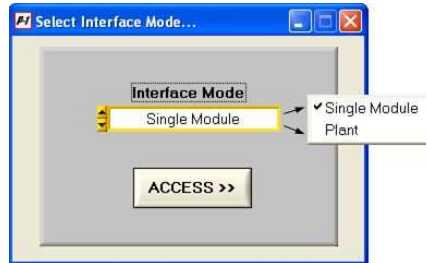
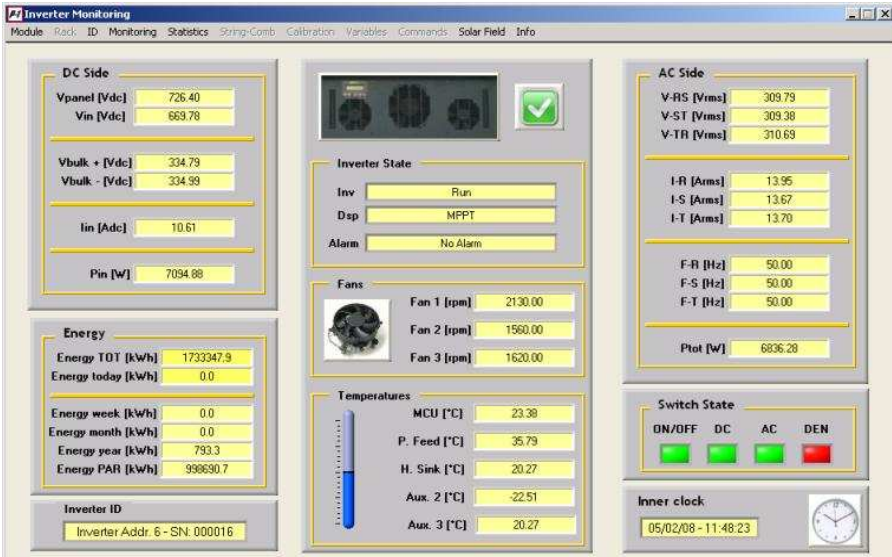

Figure 16-2: Choice of the interface type
Figure 16-10: Inverter Monitoring
- ➡ By double clicking on the image of the single module you can access the management menu of the single module (Figure 16-10).
You can access the management menu of the single module (Figure 16-10) as indicated above or, otherwise, by choosing “single module” in Figure 16-2 and pressing the [ENTER>>] button of the *Single Module Panel* window.